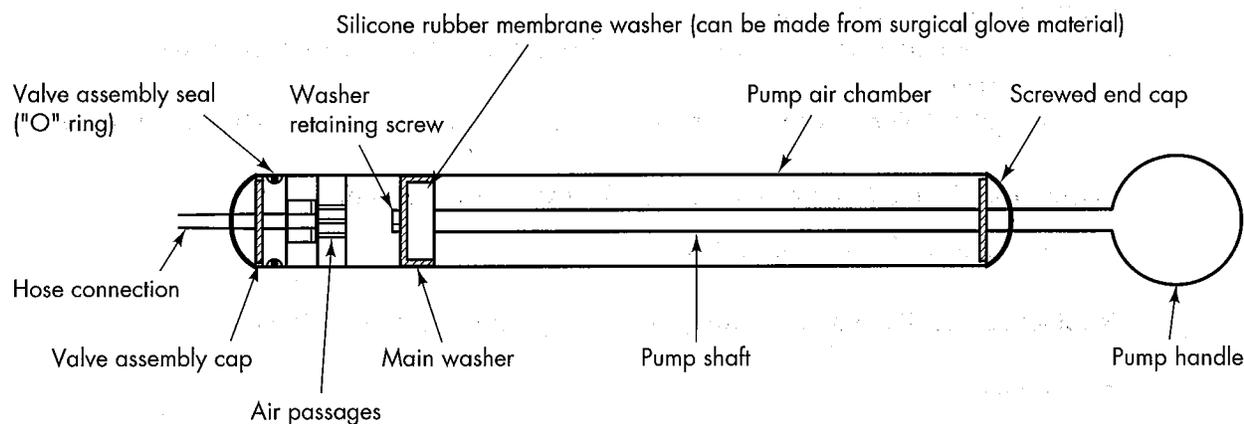

Figure 42: Vacuum pump parts
a. check the vacuum pump: (Figure 42)